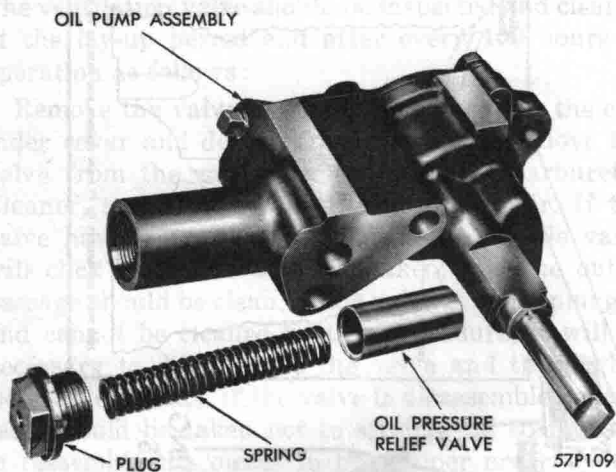

Fig. 60—Oil Pump Assembly
- (1) Tighten attaching bolts to 15 foot-pounds torque.
- (2) Install drain plug. Fill oil pan to level and install dipstick.
**OIL PUMP (Fig. 60)****Removal**